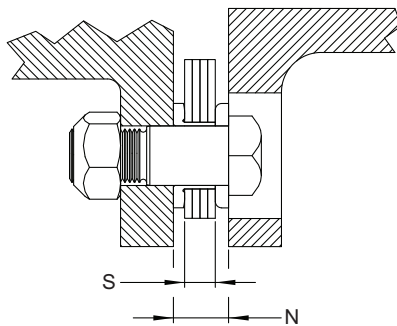

Figure 10 - Bolt, Washers, Locknuts and Disc pack assembly
- 9.3. For reference during assembly, measure and record the compressed thickness of the compressed disc pack “S” (as shown in Figure 10) by using a micrometer or caliper positioned midway between the OD and ID and between two adjacent holes.
- 9.16. As an assembly and alignment check, measure the distance “N” between the flanges of the hub and the center spool at each end, as shown in Figure 3 and Figure 10. Dimension “N” should be measured at four (4) positions equally spaced around the circumference of the disc pack gap (at top, bottom, and side positions) at each end.
- If the N_{average} value is outside of these specifications, use a more precise measurement method to verify an acceptable gap, by first measuring the thickness of the disc pack “S” as shown in Figure 10. The discs should be tightly compressed during the measurement. Calculate “G” by subtracting “S” from N_{average}.